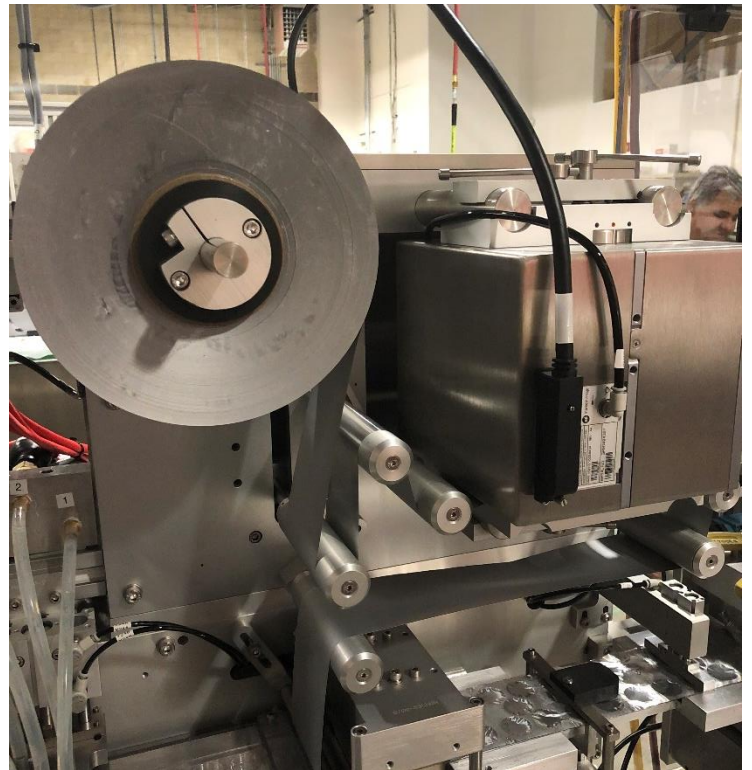

Figure 9A
- Thread film through rolls and printer unit. (*Figure 9A*)